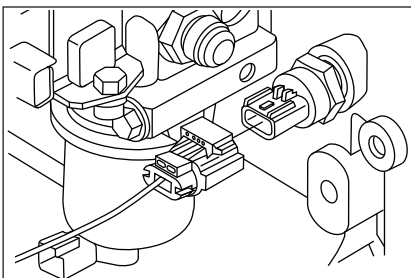

Figure 4
6. Connect the Jumper Cable Kit Connector (From 050792 / 050794 as applicable) onto the Pressure Switch, 050665 (Figure 4)